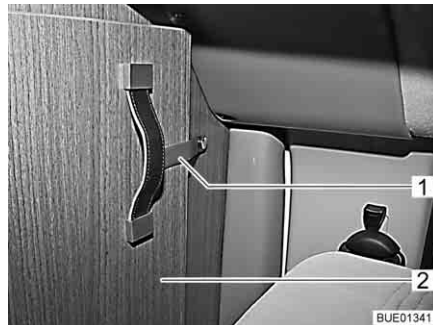

Fig. 56 Securing strap
- Release the securing strap (Fig. 56,1) from the foldable section of the driver's cabin partition (Fig. 56,2).